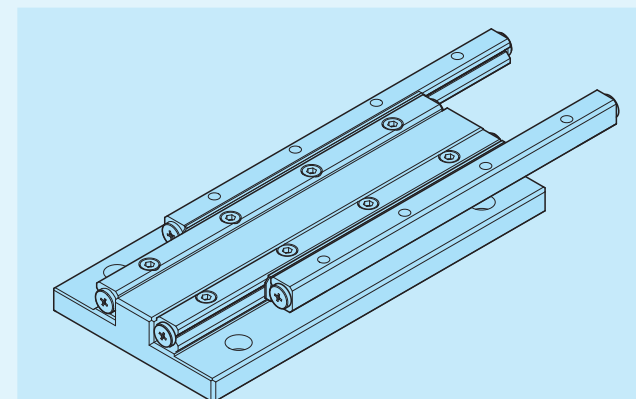

Fig. 19
- Position the table-side way in the stroke end position. (Refer to Fig. 19)